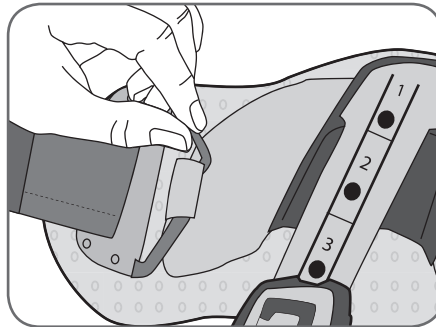

Figure 9-13: Unhooking the top silicone panel.
2. Gently detach the loops of the silicone panels from the hooks on the Thigh FS Cuff top and bottom panels. See Figure 9-13.